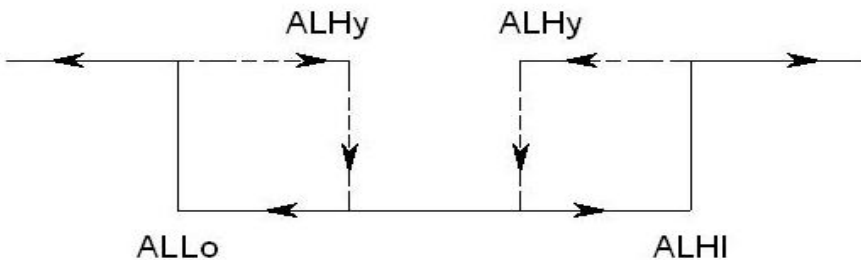

Fig. 4
- * The function of " Alarm Low limit value " setting, refer to page 12, Fig. 4.*
- * The function of " Alarm Hysteresis value " setting, refer to following Fig. 4.